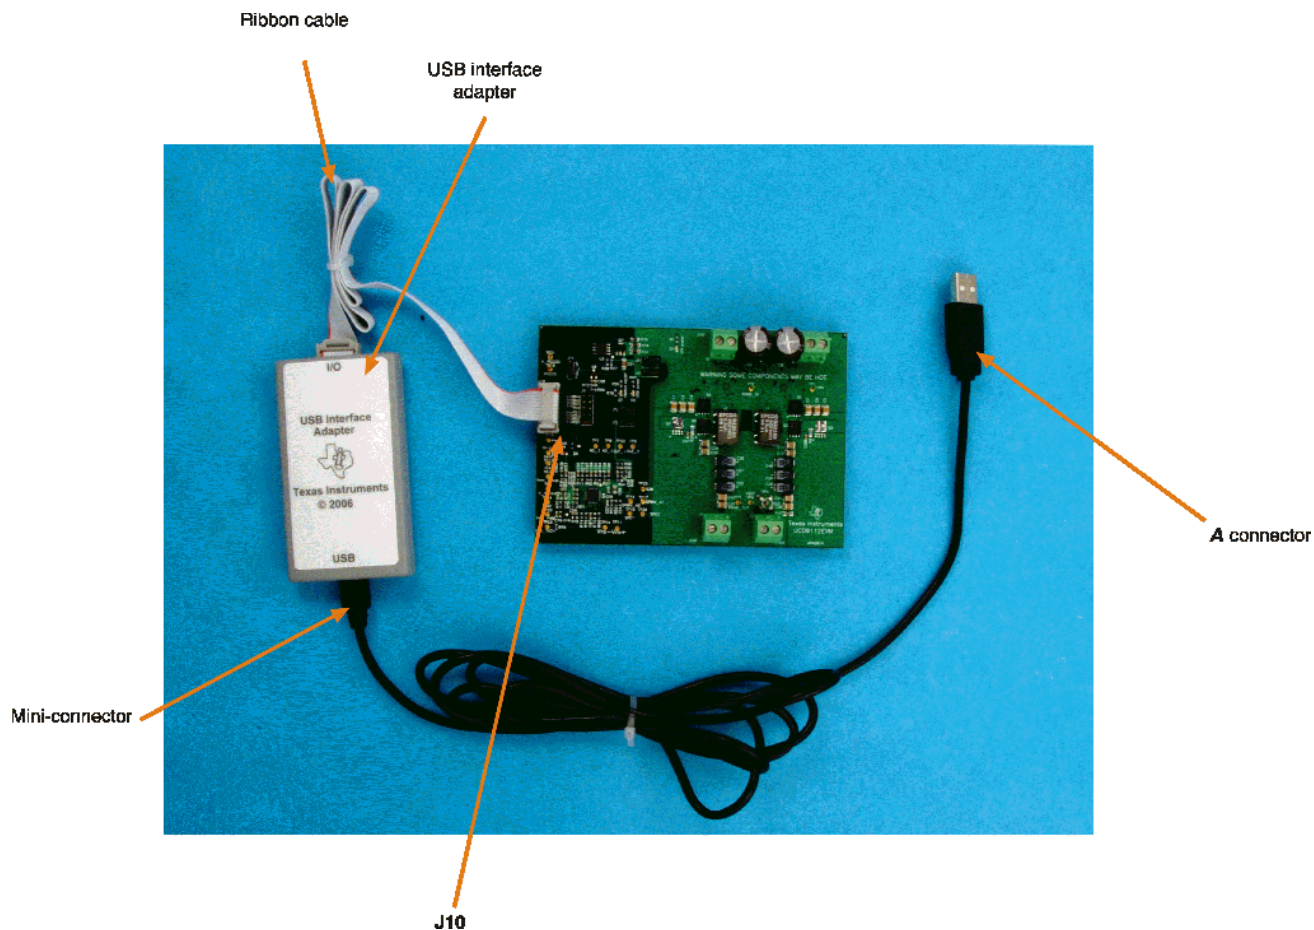

Figure 2. Connection Between EVM and Host
2. Connect the mini-connector on the USB cable to the USB interface adapter, and connect the A connector to the USB port of the host. This connection is shown in Figure 2.